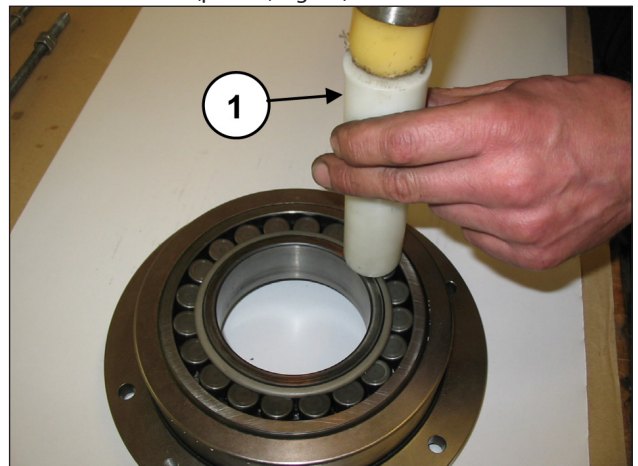

Fig. 26
Lay the bend shaft on the bottom of the casing. Separate the bearing support cover from the bearing, using an extractor hammer (pos. ①, Fig. 26).